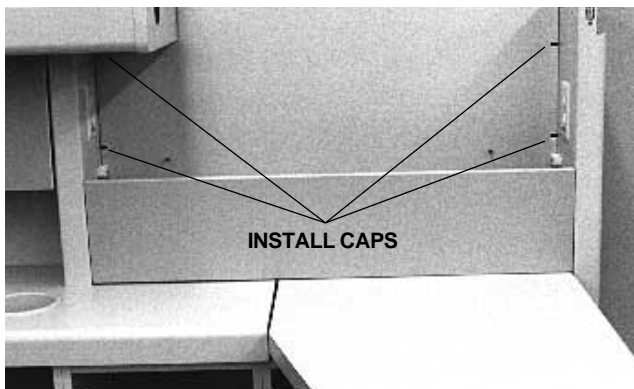

FIGURE 24
- Install the cover caps on the four visible cam lock screws (see Figure 24).